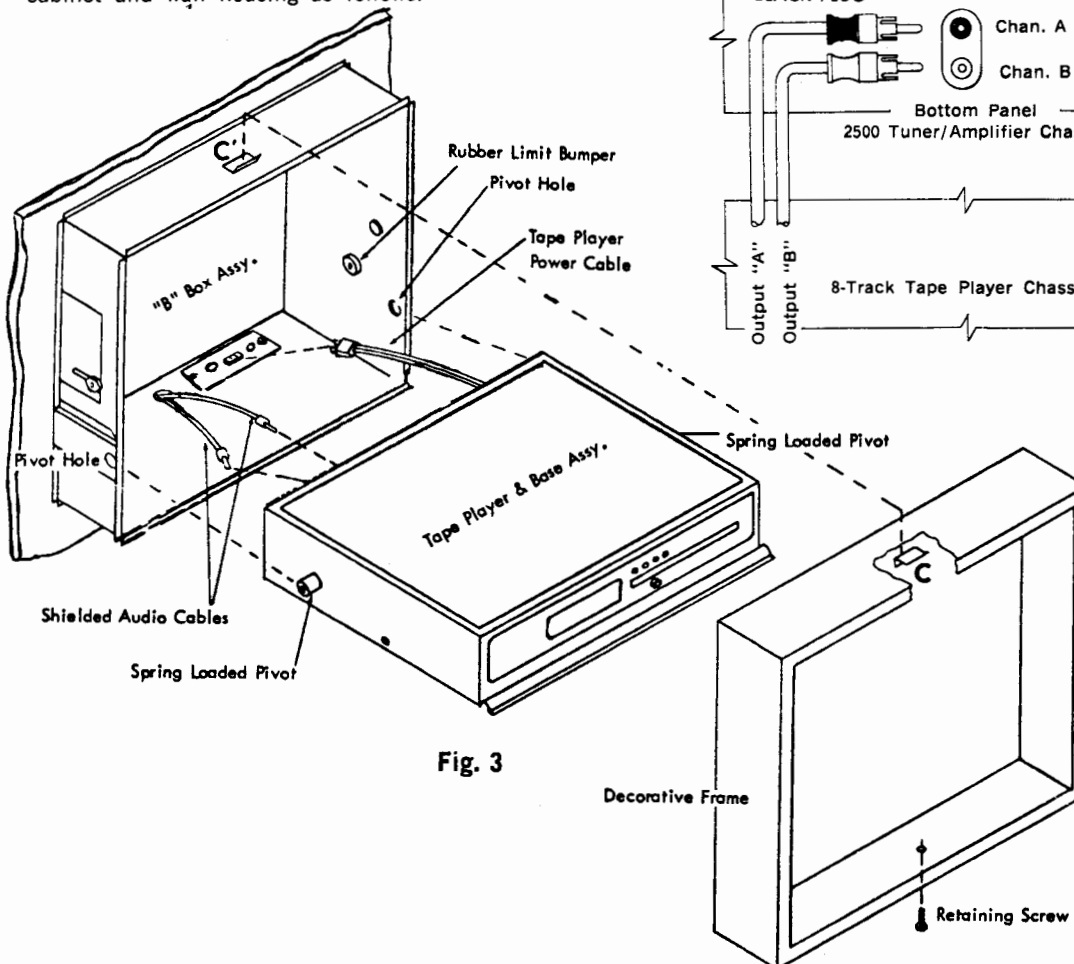

Fig. 3
1. Remove decorative frame by releasing the retaining screw located on bottom of frame and remove frame. Figure 3.
2. Push in on the two spring loaded pivots on each side of the housing and remove Tape Player and Base Assembly. Figure 3.